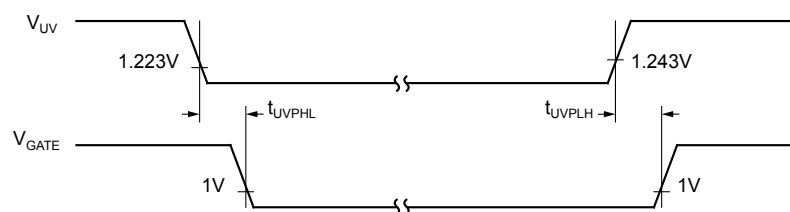

Figure 4. Undervoltage Response
| $t_{UVPHL}$  | UV to GATE Low (6) (Figure 4)                                |                                                         |     | 1   |     | $\mu s$ |
| $t_{UVPLH}$  | UV to GATE High (6) (Figure 4)                               |                                                         |     | 1   |     | $\mu s$ |